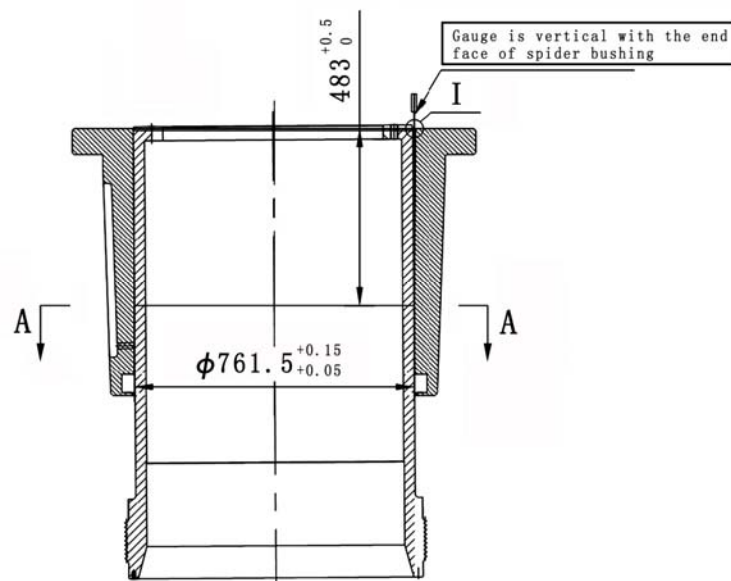

Fig. 9-7 Sketch of gauge to measure the gap
- ③ Before measurement, cannot move the main shaft after crusher stop operation, shall keep the original heeling condition of it.
- ④ To measure the gap between spider bushing and main shaft at CSS side. Shall using a group of thickness gauge with different sizes to the gap between spider bushing and main shaft until get the max. gap with the most thickness gauge.
- ⑤ Turn the gauge in item 2.4 in clockwise at the direction of inner circle of spider bushing until the gauge cannot be moved. Then do the marking 1 on the spider bushing, which is corresponding to the location of this gauge as indicated in A-A view. Please refer to figure 9-7 and 9-8.
- ⑥ Turn the gauge in item 2.4 in anticlockwise at the direction of inner circle of spider bushing until the gauge cannot be moved. Then do the marking 1 on the spider bushing, which is corresponding to the location of this gauge as indicated in A-A view. Please refer to figure 9-7 and 9-8.